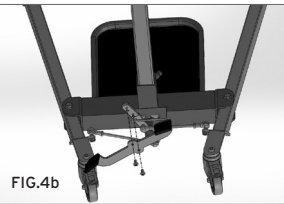

FIG.4b
- 6a. Fit the lever for base legs opening and block it with the provided screw. (Fig.4b - for R1841 model)